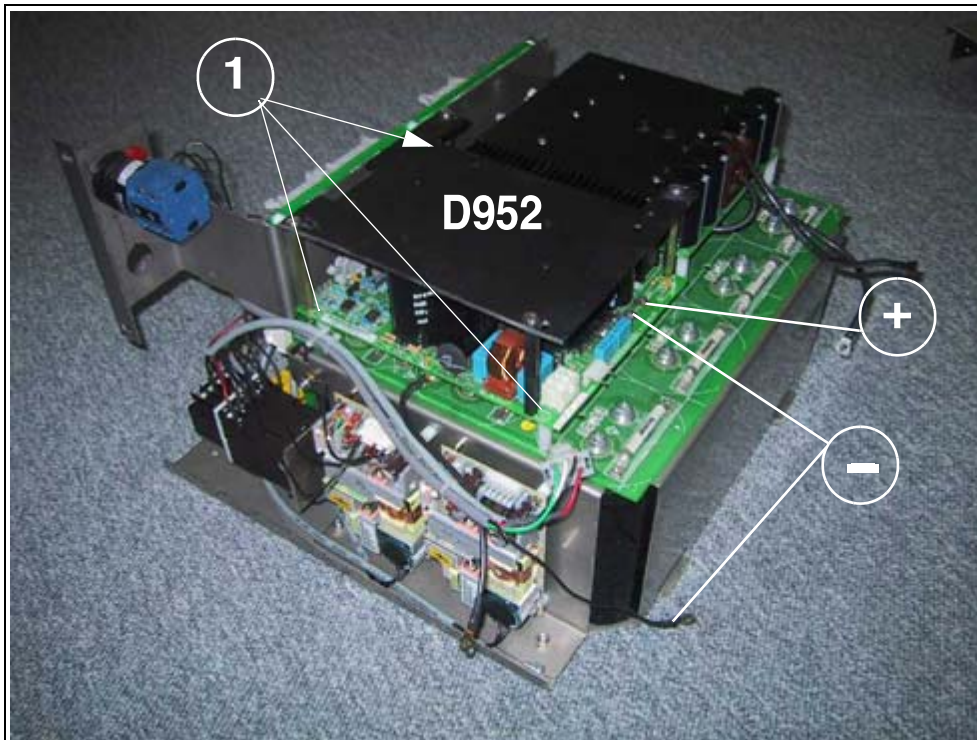

Fig. 31: D952\_capacitor charger\_ \_01
- If possible, measure the voltage at the capacitor connection screws of board D972 and at the connection screws of D952 (+/-/Fig. 31 / p. 44).
- Loosen the two contact points (+/-/Fig. 31 / p. 44) of board D952.
- Loosen the three mounting screws (1/Fig. 31 / p. 44) and replace the board.
- First tighten the three mounting screws and then the two connection screws - reconnect the "Minus" cable (-/Fig. 31 / p. 44).